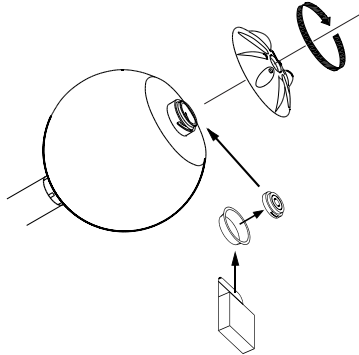

Fig. 8: Placing the sensor insert, DO 2
- ▶ Place the sensor insert into the float as shown in fig. 8 (insert the two lugs on the bottom of the sensor into the corresponding holes on the transmitter).
- ▶ Remove the old sensor insert (see Fig. 5 or Fig. 8)
- ▶ Place a new sensor insert (see Fig. 5 or Fig. 8) (insert the two lugs on the bottom of the sensor into the corresponding holes on the transmitter).